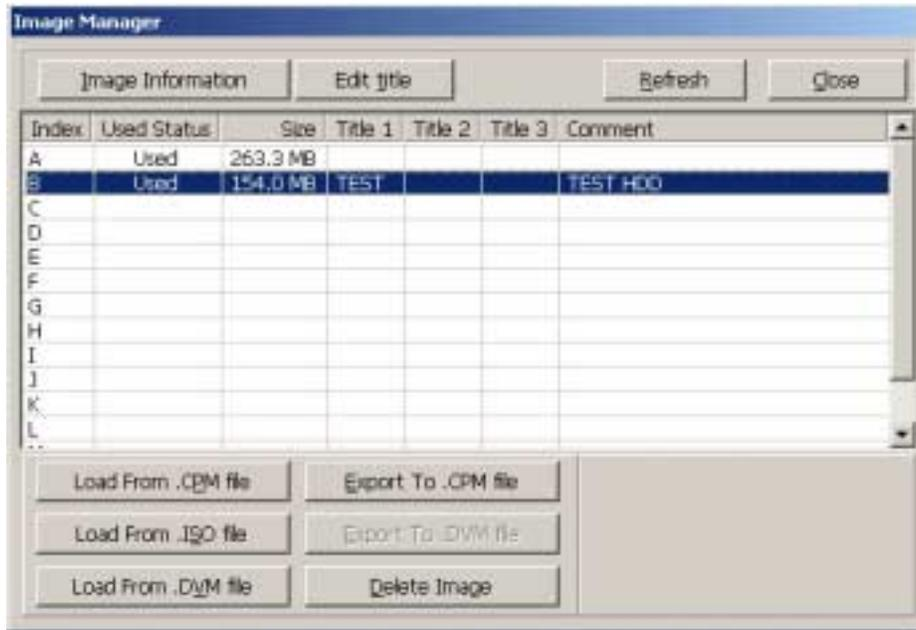

Figure 10
(11) After editing and clicking [OK], you will enter Figure 10.